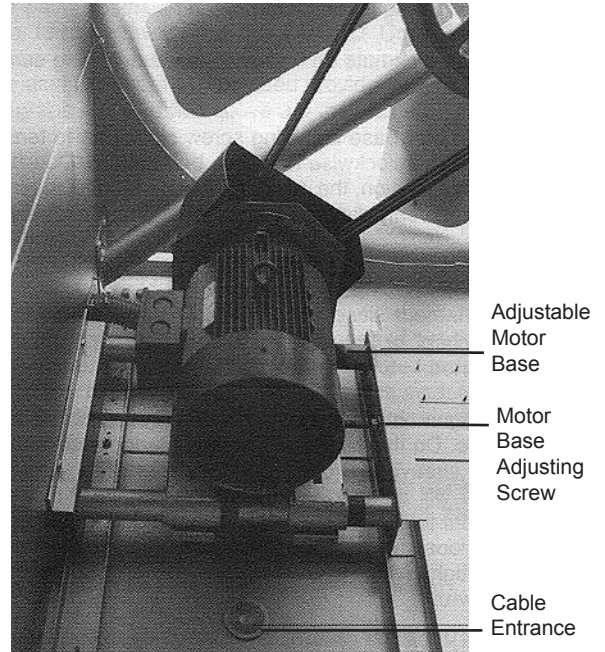

Figure 4 - Adjustable Motor Base
The motor base adjusting screw (see Figure 4) should be greased twice a year using a good quality corrosion inhibiting grease such as one of those recommended for lubricating the fan shaft bearings.
1. Loosen the lock nuts on the motor base adjusting screw (see Figures 4 and 5).